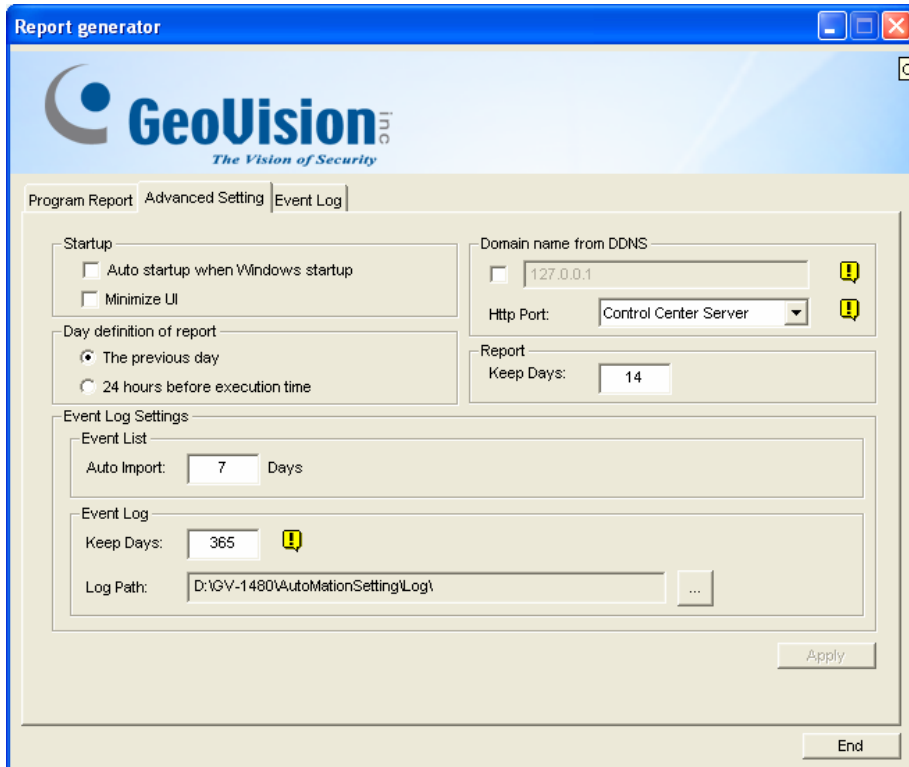

Figure 11-69
- ⊙ If you select **The Previous day** on the Advanced Setting tab (Figure 11-69), the report will be generated on the data of one day before your specified date. For example, you enter “12/10/2007” in the **Select Date** drop-down list. The report is generated on the data of 9th December 2007.
- ⊙ If you select **24 hours before execution time** on the Advanced Setting tab (Figure 11-69), the report will be generated on the data of 24 hours before your specified date and time. Specify the date and time by using the **Select Date** and **Select Time** drop-down lists.
- ⊙ If you select **The Previous day** on the Advanced Setting tab (Figure 11-69), the generated report will contain the data of 7 days before your specified date. For example, you enter “12/10/2007” in the **Select Date** drop-down list. The report is generated on the date from December 3rd to 9th in 2007.
- ⊙ If you select **24 hours before execution time** on the Advanced Setting tab (Figure 11-69), the generated report will contain the data of 7 days counting back on your specified date and time. Specify the date and time by using the **Select Date** and **Select Time** drop-down lists. For example, if you enter “12/10/2007” and “01:00”, the report is generated on the time from 01:00 am, December 10th to 01:00 am, December 4th, 2007.
2. If the **Domain name from DDNS** option on the Advanced Setting tab (Figure 11-69) is not selected, this dialog box will appear.